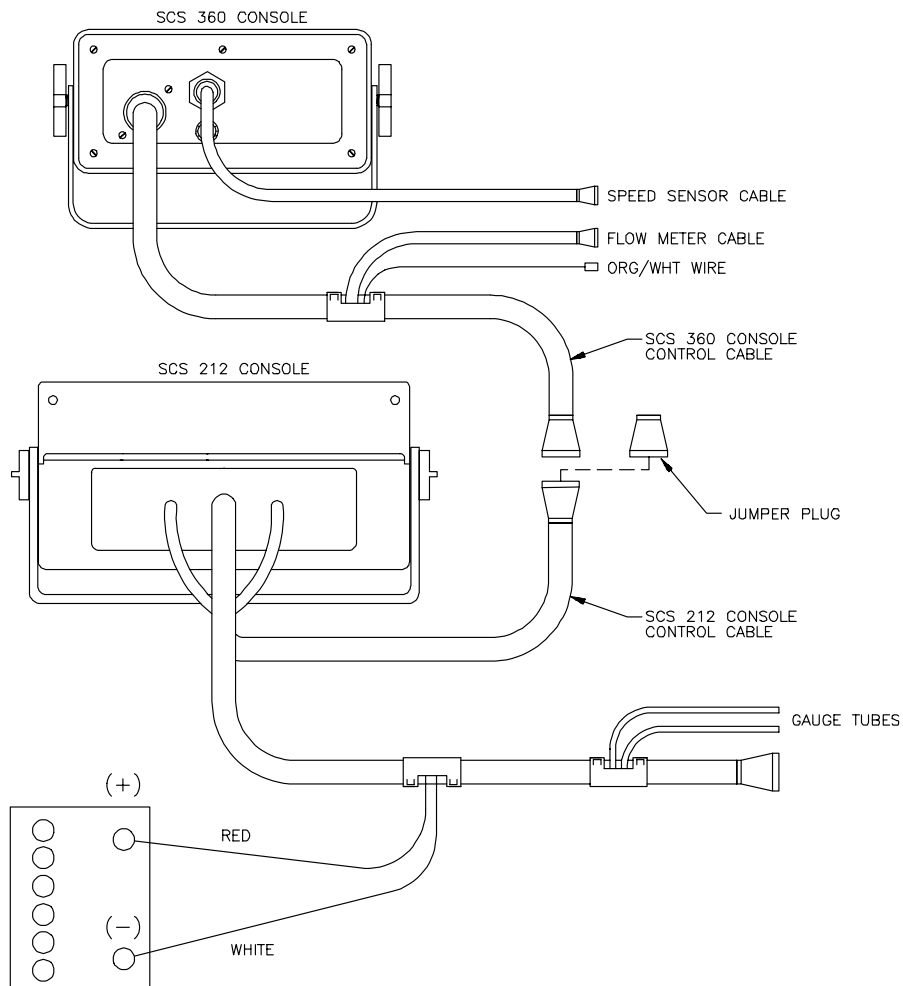

FIGURE 4
- 2) Remove the Jumper Plug on the SCS 212 Console Control Cable. Connect the 2' SCS 360 Console Control Cable to the SCS 212 Console Control Cable and the other end of the SCS 360 Console Control Cable to the back of the SCS 360 Console. (See Figure 4).